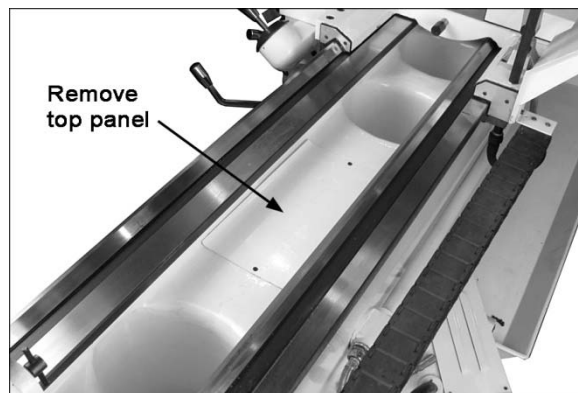

Figure 20 –Coolant pump access (GH-26120ZH)
- 1) Remove top panel inside the bed (Figure 20).